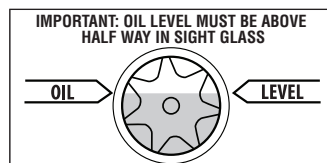

Figure 2
Step 1: Remove filter from pump. Slowly add oil until level rises to the top of the oil level line. (**Figure 2**)
Step 4: Close oil drain valve on pump. Remove oil fill plug and fill to top of oil level line with BLACK GOLD Pump Oil (**Figure 2**). Replace oil fill plug.